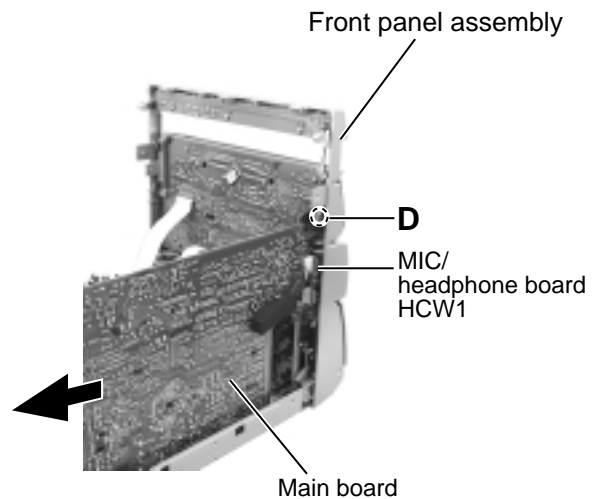

Fig.18
**■ Removing the main board (See Fig.18 and 19)**